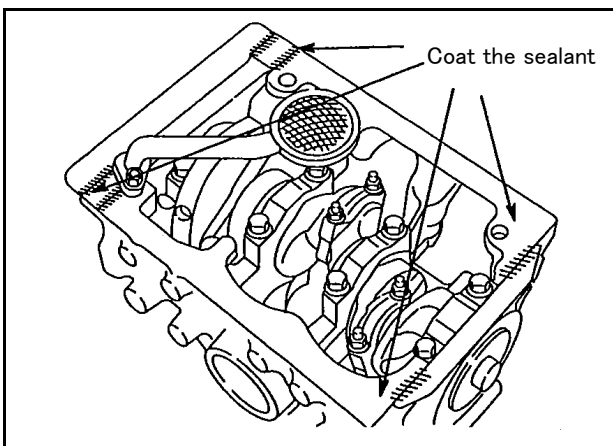

Fig.17-Installing Oil Pan
11. Oil pan installation, Fig.17.